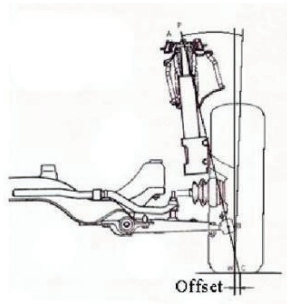

Fig. 1-11 Included Angle
1.2.2.7 Included angle (Fig. 1-11)
Offset, also known as scrub radius, is the distance from the intersection point between the tyre center line and the ground to the intersection point between the kingpin extension line and the ground (as is shown in Fig. 1-11). If the intersection point between the kingpin extension line and the ground is inside the center line of the tyre and the ground, it is called as positive offset; otherwise, it is called as negative offset. Negative offset plays a role in keeping the direction stability of the vehicle at the time of crash acceleration or crash maneuver, and therefore, current vehicles are most set with negative offset. As for the front wheel driving vehicles, if the offsets are unequal during crash acceleration, off tracking will occur, which is called as accelerated off tracking. Offset is an item of wheel arrangement adjustment. When replacing non-standard wheels, attention shall be paid to the offset. When installing the wheels, if the offset is inconsistent, the difference between the offset on both side, the maneuverability will be affected. Therefore, the replacing of the wheel rims and tyres shall conform to the vehicle delivery requirements.